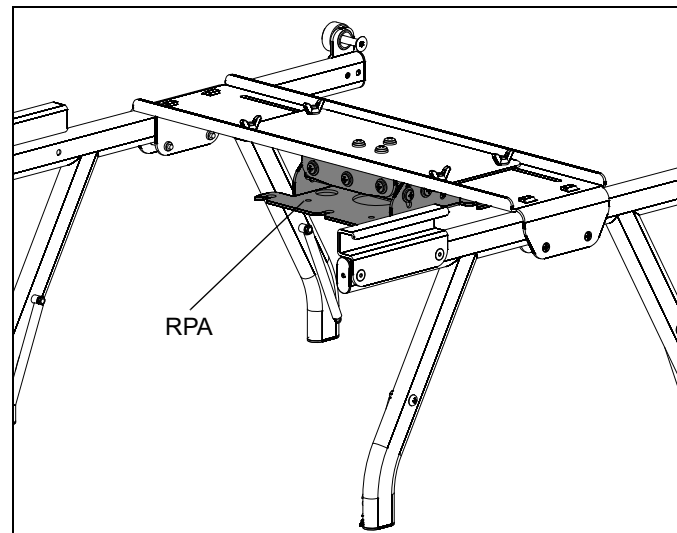

Figure 21
1. Install RPA/RPM/RSA/RSM (a Listed accessory - not included) to the projector cradle following instructions included with the RPA/RPM/RSA/RSM. (See Figure 21)